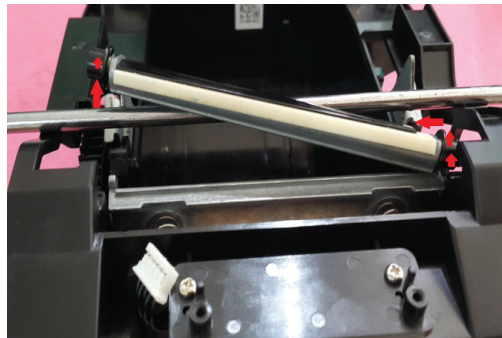

Fig 24
- 2) Remove left side first, and remove right hand. Ref Fig 24